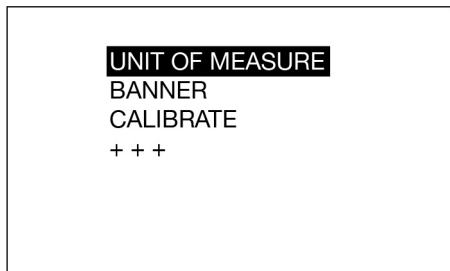

FIG. 22
- After selecting ENTER the following screen (FIG. 22) displays.